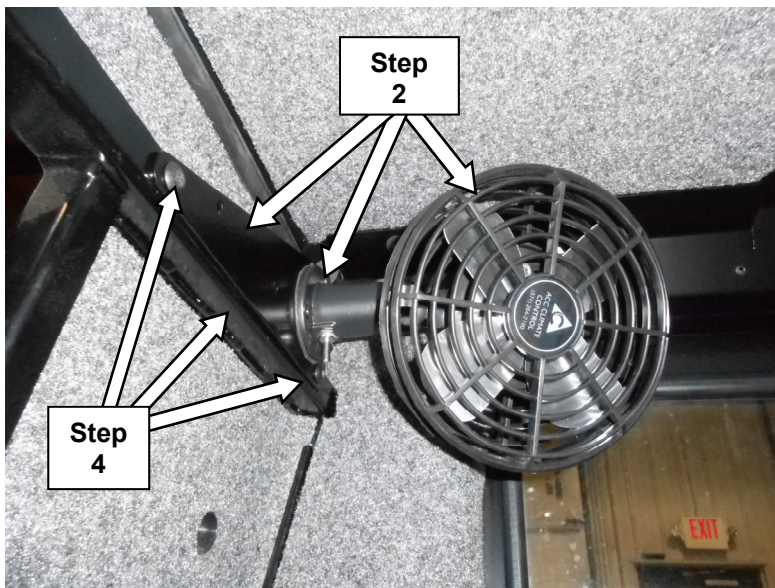

Figure 2
2. Secure fan (Item 2) with fan gasket (Item 5) to mount panel (Item 1) using No. 10 x 1/2" long bolts (Item 3) and No.10 nylock nuts (Item 4) (**Figure 2**).
4. Secure fan with mount panel to Rear RH side of Cab as shown in Figure 2 using No. 10 x 1/2" long bolts (Item 3) and No.10 nylock nuts (Item 4) (**Figure 2**).